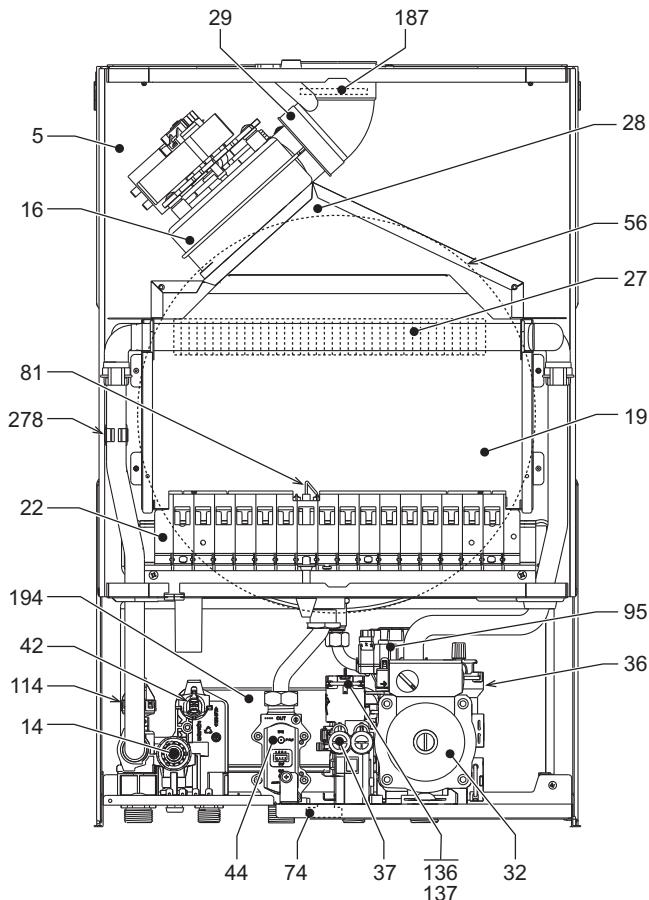

fig. 29- General view - DIVAtech D F37
**Table. 10- Legend, fig. 27, fig. 28, fig. 29 and fig. 30**